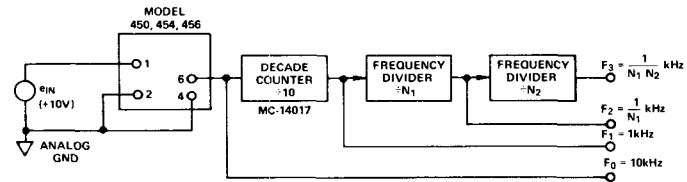

Figure 6. Voltage Controlled Square Wave Generator Using Digital Dividers and V/F Converter
Lowering Full Scale Frequency: The full scale frequency of a V/F converter can be reduced by three techniques; (1) adding a series trim potentiometer, such as 10k Ω , with the input; (2) adding a voltage divider network at the input; or (3) adding a digital divider at the output. Both input techniques (1) and (2), degrade the full scale gain drift by the added T.C. of the input resistors. By using a frequency divider connected to the V/F output, full scale frequency can be conveniently reduced without degradation of the converter's full scale drift performance. By adding successive frequency dividers, as illustrated in Figure 6, a precision, low cost, voltage controlled square wave generator can be designed.